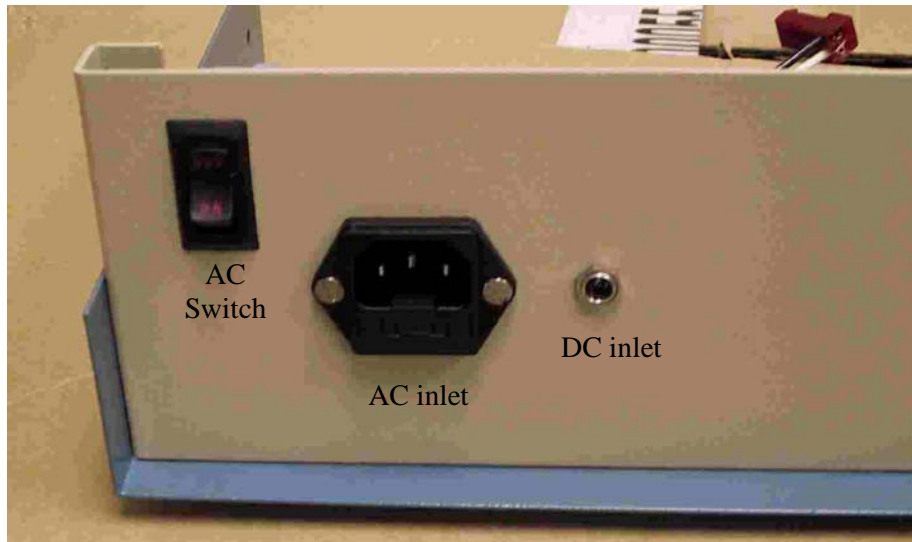
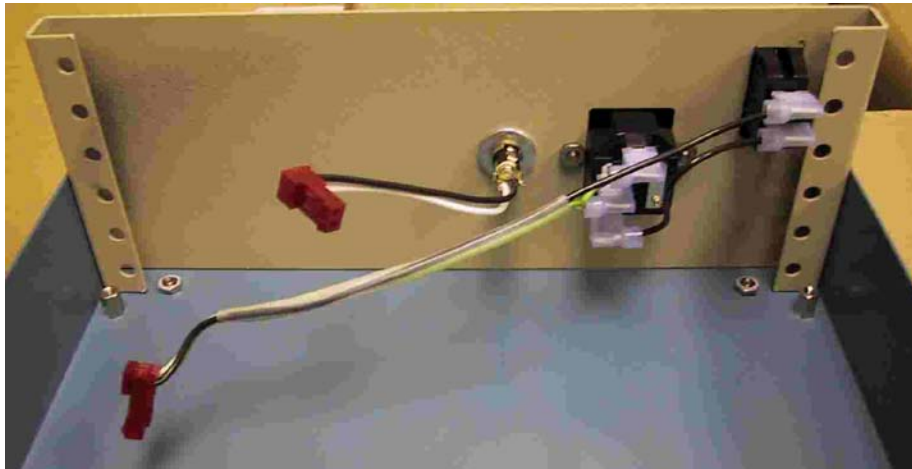

Figure 3: Back Panel Assembly - outside
Figure 4: Back Panel Assembly – inside
2. Insert AC switch by pressing firmly into panel as shown in Figure 3.
3. Insert AC inlet. Secure with two (2) 6-32 x 3/8" flat head Phillips head screw with 6-32 backing nuts as shown in Figure 3 and Figure 4. Tighten with appropriate size screwdriver and 5/16" wrench to hold nut. (slot heads ok if Phillips not available)
4. Install one (1) 250mA fuse into fuse holder and one (1) into spare holder.
5. Insert DC coaxial barrel jack with a backing nut and a front nut. Adjust so jack sits flush on panel as shown in Figure 3. Use $\frac{1}{4}$ " washer as a spacer on inside panel if needed as shown in Figure 4. Tighten using a $\frac{3}{8}$ " wrench.